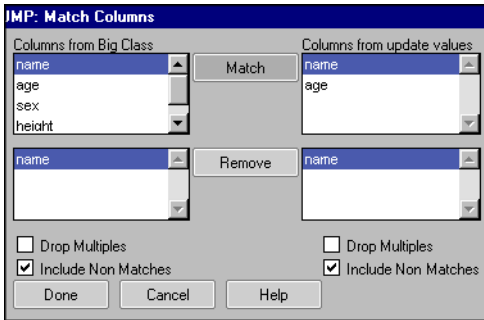

Figure 20: The Match Columns dialog lets you choose which columns to match.
4. Click the **By Matching Columns** button. The Match Columns dialog appears (see Figure 20).